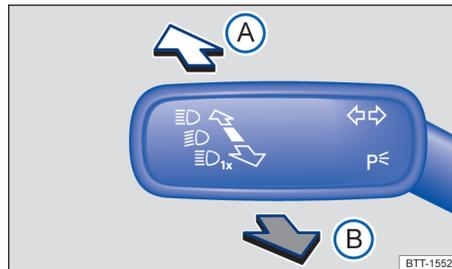

Fig. 78 To the left of the steering wheel: Turn signal and high beam lever.
- Move the turn signal and high beam lever from the center position to the following position → **fig. 78**: